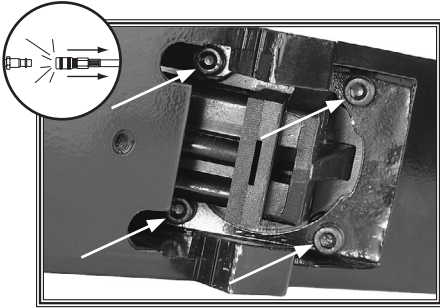

Figure 6. Cap screws that secure the base to the nailer body.
- Use a 5mm hex wrench to remove the four cap screws that secure the base to the nailer body (see Figure 6).